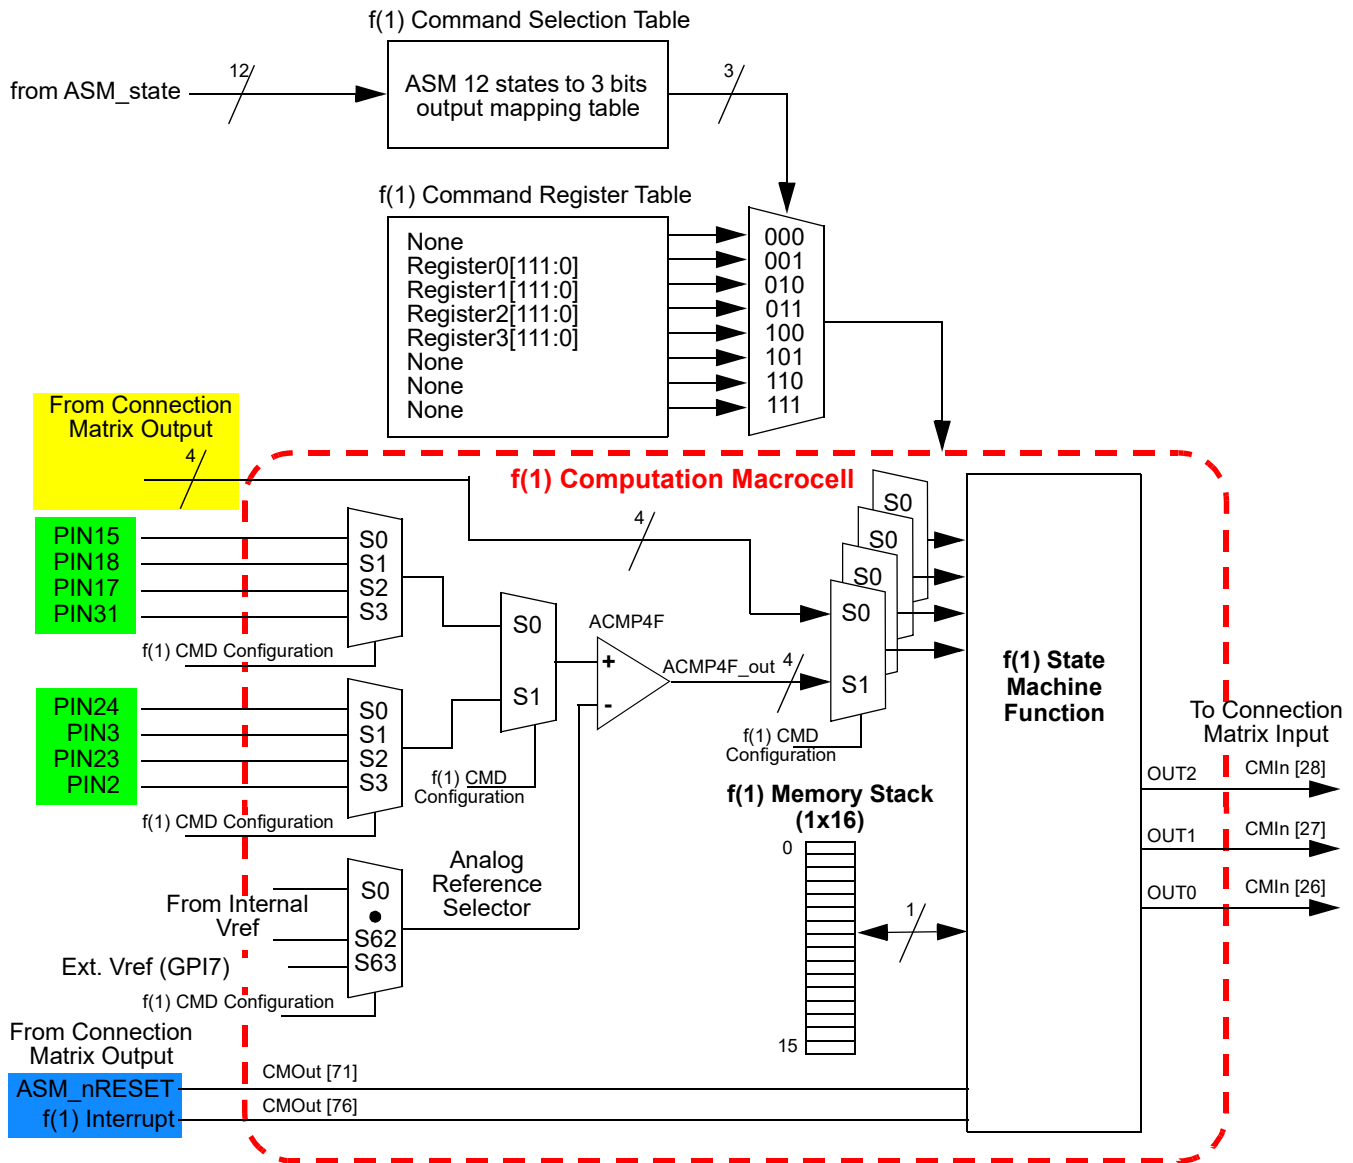

Figure 106: f(1) Computation Macrocell Input Signals
17.3 F(1) COMPUTATION MACROCELL INPUT SIGNALS
The f(1) Computation Macrocell has 6 digital input signals, ASM\_nReset, f1\_Interrupt, and four inputs from Connection Matrix outputs. An active signal on either of the first 2 inputs will immediately halt any command execution for the f(1) Computation Macrocell, and will immediately relinquish control back to the ASM macrocell. The ASM\_nReset is a level sensitive signal, and active low. The f1\_Interrupt is a level sensitive signal, and active high. These signals are shown in Figure 106, highlighted in blue. Also there are 4 digital inputs from the Connection Matrix, which can be routed to any Connection Matrix outputs from the f(1) Commands. These signals are shown on Figure 106 highlighted in yellow.